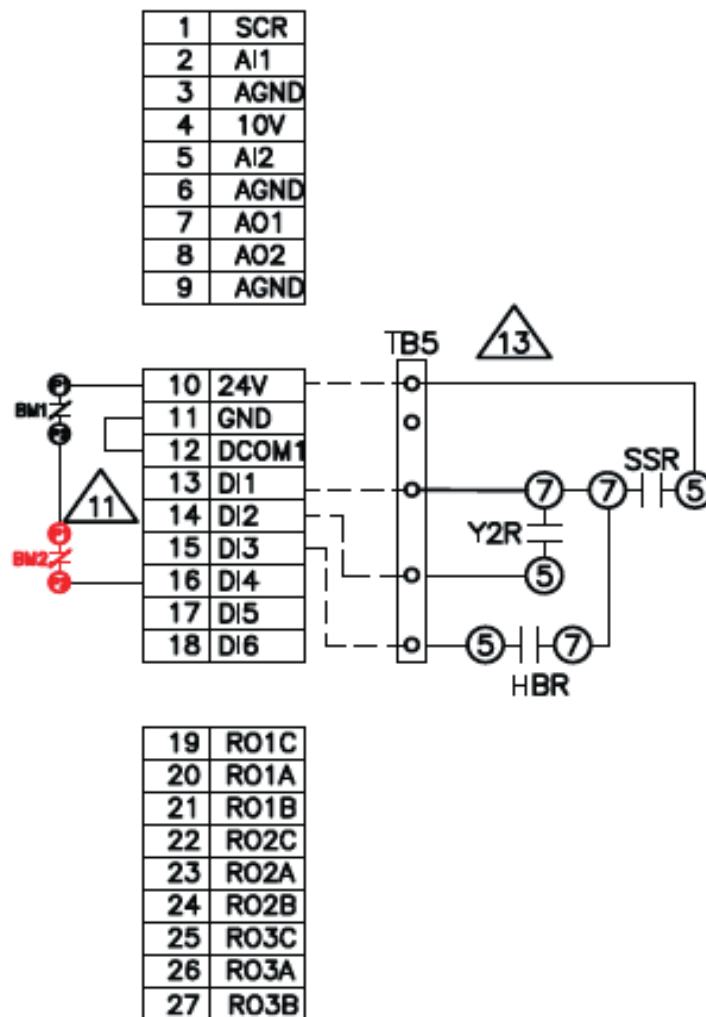

Fig. 8 — SAV™ VFD Control and Low Voltage Connections, 50HQP Units
2. Make field wiring connections between VFD control terminals 24V (terminal #10), DI1 (terminal #13), DI2 (terminal #14), DI3 (terminal #15) and Terminal Block 5 (TB5) located in the electrical control box. See Fig. 8.